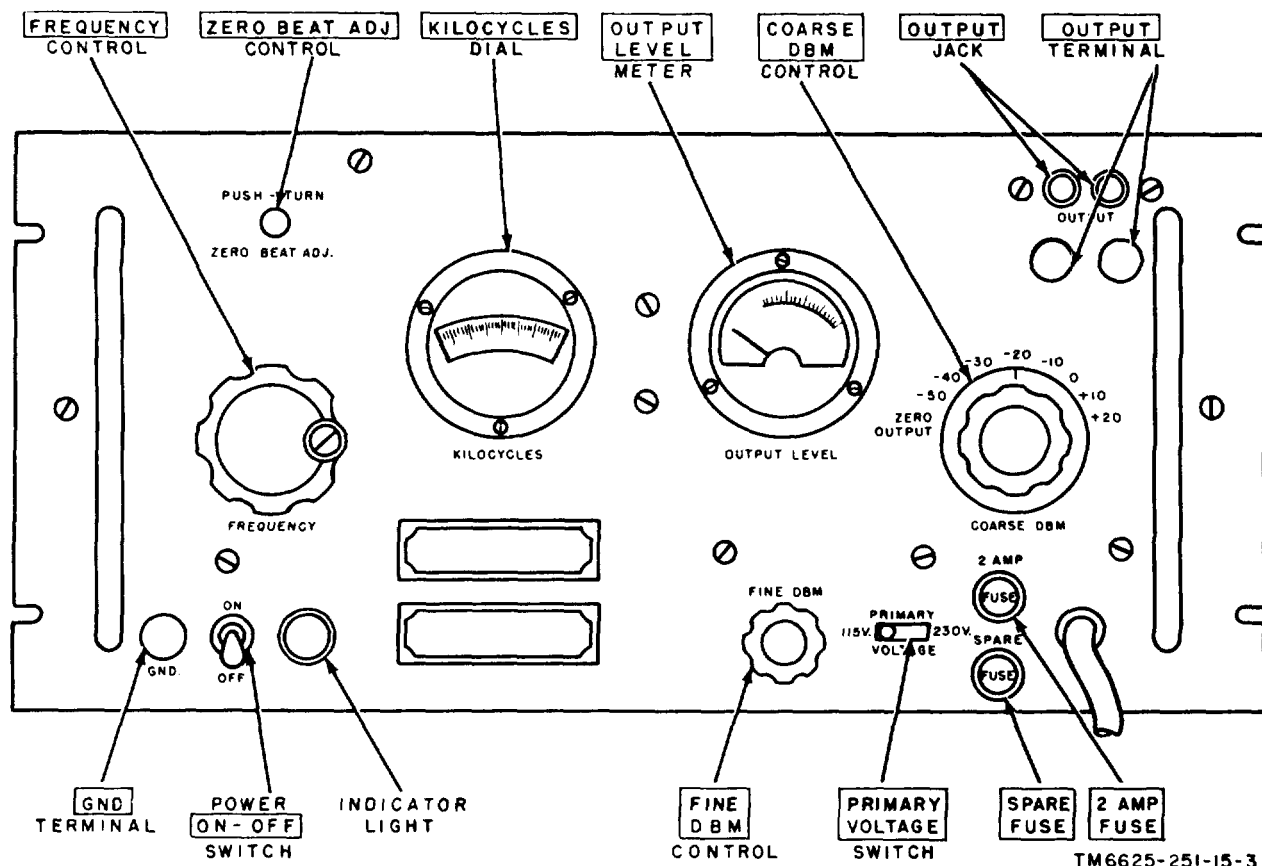
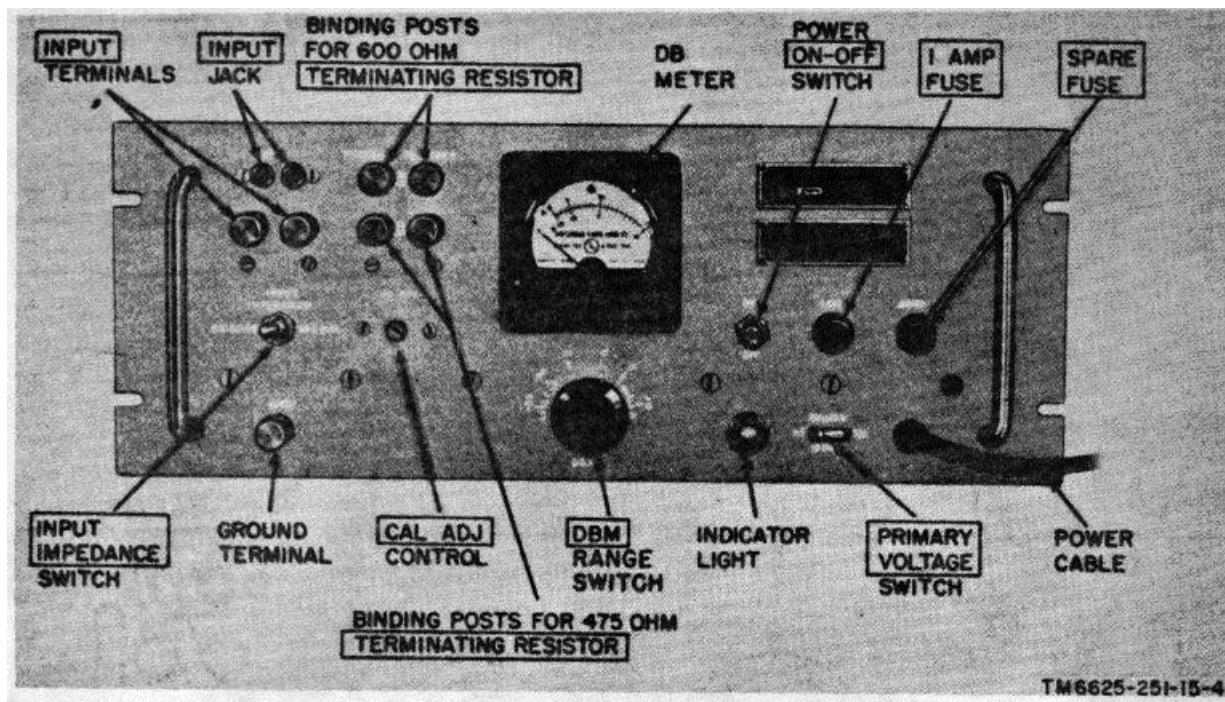

Figure 3-1. Signal Generator SG-15(*)/PCM, front panel showing location of controls, indicator, terminals, and jacks.
Figure 3-2. Decibel Meter ME-22(*)/PCM, front panel, showing location of controls, indicator, terminals, and jacks.
b. Connect an external ground to the GND terminal on the front panel of both the signal generator (fig. 3-1) and the decibel meter (fig. 3-2). These terminals are thumbscrew-type binding posts, each with a wire slot in the neck for convenience in making a ground connection. If available, a cold water pipe can be used for the ground connection. Connect a ground wire to the pipe with a suitable pipe clamp equipped with a soldering lug. Before connecting the clamp, thoroughly clean the pipe where the connection is to be made with emery cloth.
c. Before operating the equipment, check to be sure that the operating and spare fuses in each unit are of the correct value. The fuseholders in the signal generator (fig. 3-1) should be equipped with 2-ampere fuses and the fuseholders in the decibel meter (fig. 3-2) should be equipped with 1-ampere fuses.
a. *Controls.* The table below lists the controls of Signal Generator SG-15(*)/PCM and gives the function of each. The location of these controls is shown in figure 3-1.
b. *Indicator.* The only indicator used in Signal Generator SG-15/CPM is OUTPUT LEVEL meter M1 (fig. 3-1). It is a d-c (direct-current) milliammeter calibrated in db with reference to 1 mw (milliwatt) and extends over a range of 10 db from -4 through +6 db.
c. *Terminals and Jacks.* The table below lists all the terminals and jacks located on the front panel, of the signal generator and gives the function of each. To locate these parts, refer to figure 3-1.
a. *Controls.* The following table lists the controls of Decibel Meter ME-22(*)/PCM and gives the function of each control. The location of these controls is shown in figure 3-2.
b. *Indicator.* The only indicator used in Decibel Meter ME-22(*)/PCM is meter M1 (fig. 3-2). This is a 0- to 1-ma (milliampere) meter calibrated in two scales as follows: SCALE A, 0 db through +15 db; SCALE B, -15 db through 0 db. The reading of Decibel Meter ME-22(*)/PCM is the sum of the reading of meter M1 on either scale and the setting of DBM switch S2 on the corresponding scale.
c. *Terminals and Jacks.* The following table lists the terminals and jacks located on the front panel of the decibel meter and gives the function of each. To locate these parts, refer to figure 3-2.
- a. Set the FREQUENCY control of Signal Generator SG-15(*)/PCM (fig. 3-1) to the minimum frequency of 200 cps as indicated on the KILOCYCLES dial.
a. Set the power ON-OFF switch of Decibel Meter ME-22(*)/PCM (fig. 3-2) the ON position. Allow the equipment to warm up for a period of 5 to 10 minutes.